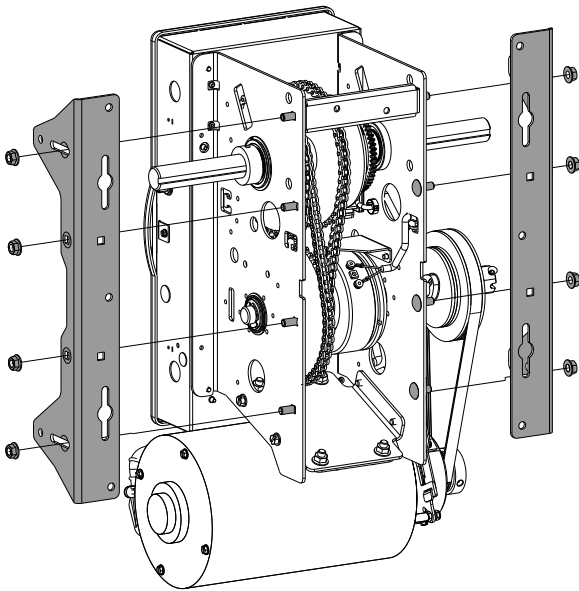

Fig. 2
- 2) Install mounting pads inboard using existing hardware on operator and kit bag as shown in Fig 2.